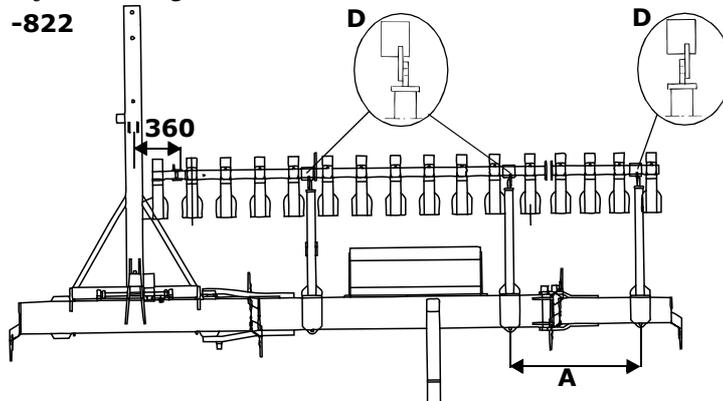
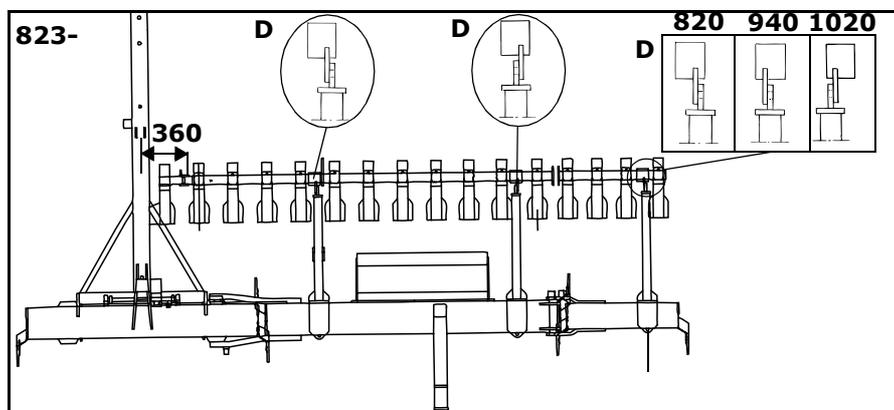

Figure 3.5
Figure 3.6
- 1 Install the two arms fitted with hydraulic cylinder brackets onto the inner mounting plates on the wheel sections. Then install the outer arms. See “Figure 3.5” or “Figure 3.6”. Do not tie the joints too tight.